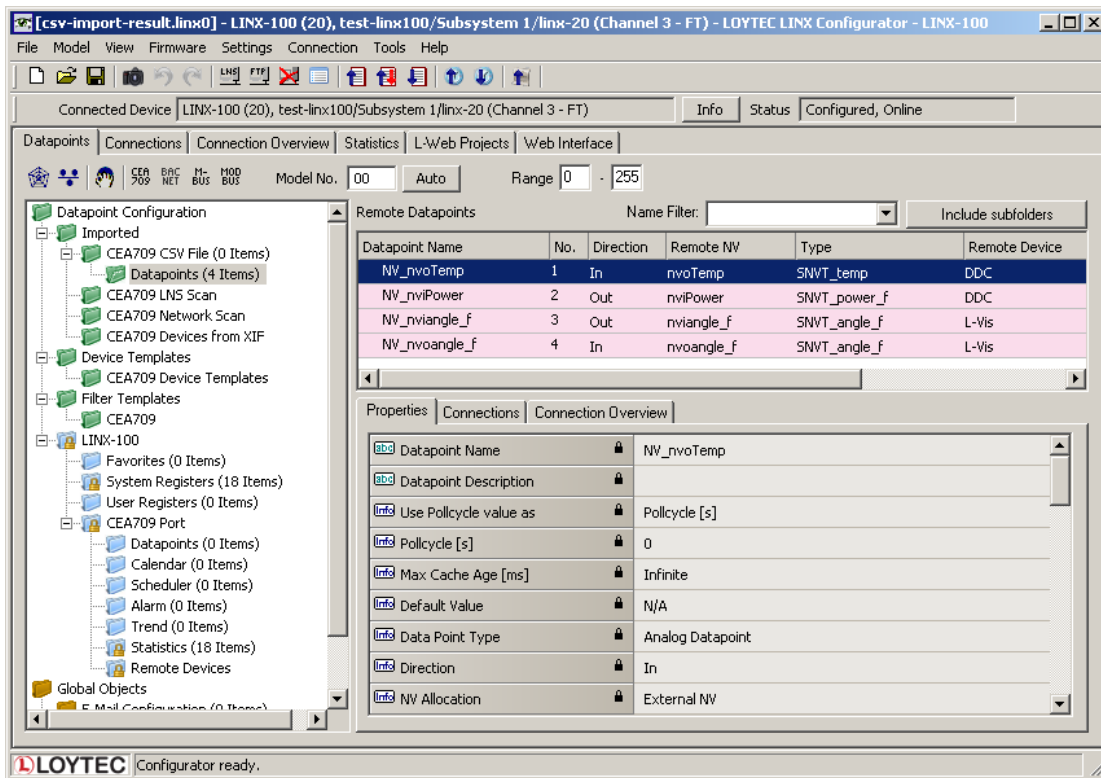

Figure 144: Imported NVs.
- Now the CSV File folder is populated with the imported NVs as shown in Figure 144.